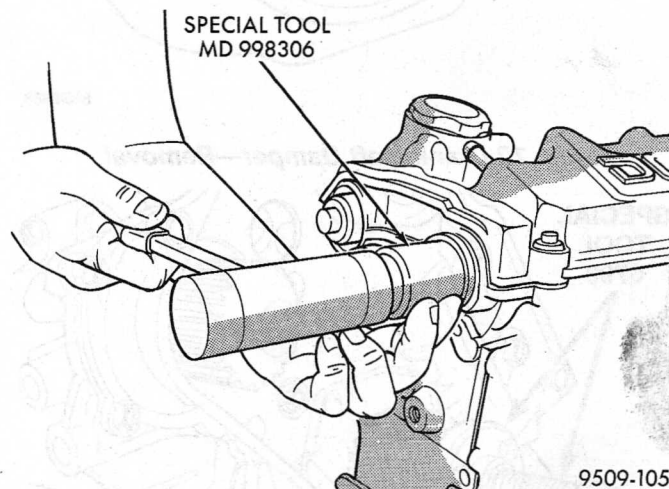

Fig. 71 Camshaft Seal-Installation
- (1) Shaft seal surface must be free of varnish, dirt or nicks. Polish with 400 grit paper if necessary.
- (2) Install camshaft seal into cylinder head using Special Tool MD-998306 until flush with head (Fig. 71).